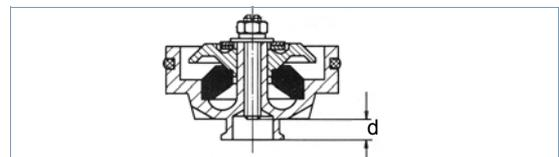

Fig. 4 Dimension d (Device with one rubber spring)
- Adjust dimension $d = C + 0,8$ mm in the graduating piston by turning the set screw (see fig. 4).